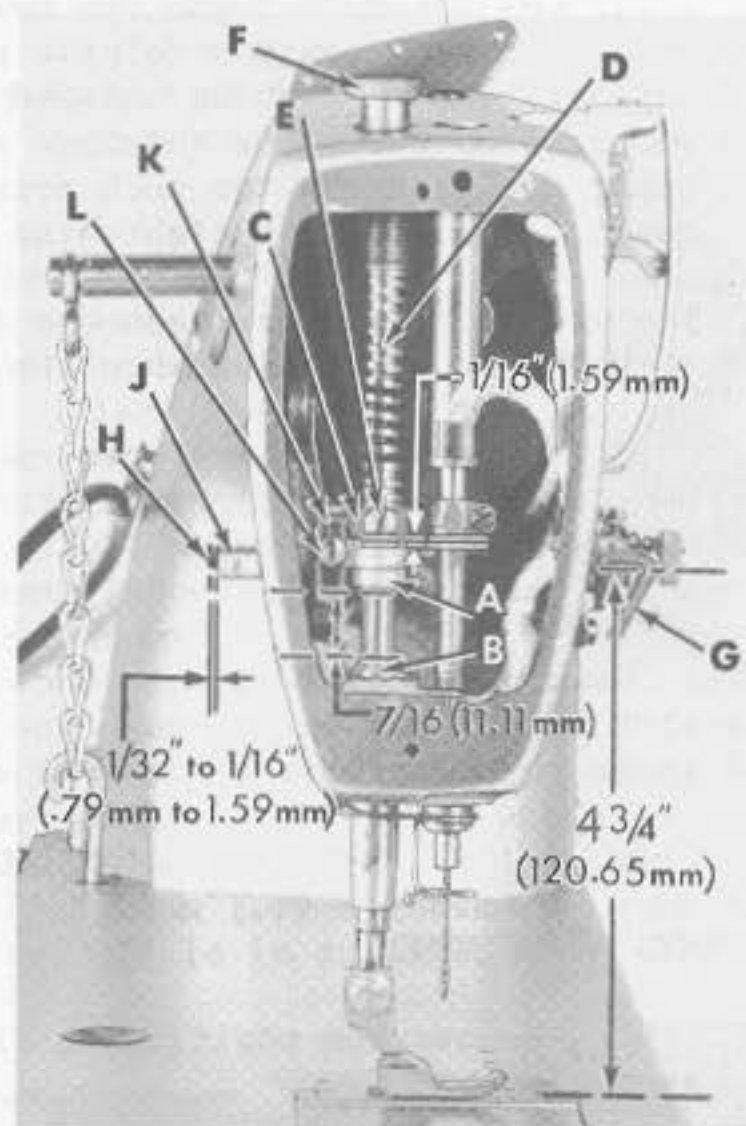
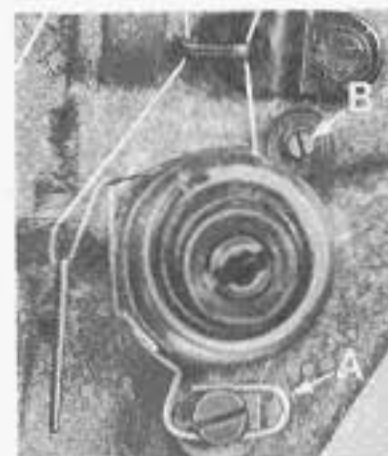

Fig. 16A
Fig. 18A
The presser bar connection (A, Fig. 16A) should be set so that it is  $\frac{7}{16}$  inch (11.11 mm) above the presser bar bushing (B) on Style 63400 KC, as shown in Fig. 16A. This dimension should be  $\frac{1}{32}$  inch (.79 mm) on Style 63400 C. This is accomplished by tipping the machine back against the rest pin, loosening lock nut (A, Fig. 15) and relocating the stop screw (B) on the lifter lever bell crank (C). By turning the stop screw to the right or left, proper setting of the presser bar connection should be obtainable. Tighten lock nut (A) to secure the stop screw in place.
When locating the presser bar guide (C, Fig. 16A) the presser foot must rest directly against the throat plate with the feed dog in its lowest position. The guide is set properly when there is a  $\frac{1}{16}$  inch (1.59 mm) space between the bottom of the presser bar guide (C) and the top of presser bar connection (A).
To obtain this setting, remove the pressure from the presser spring (D, Fig. 16A) and loosen set screw (E). Tap on the presser foot to insure its being down on the throat plate. Set the guide to the  $\frac{1}{16}$  inch (1.59 mm) dimension, center the foot by turning it so that the needle enters the middle of the needle slot. Retighten screw (E) in guide and apply pressure to the presser foot by turning the presser spring regulator (F) clockwise.
Set the needle thread pull-up bracket (G, Fig. 16A) so that the underside of the bracket is  $4 \frac{3}{4}$  inches (120.65 mm) above the throat plate (Fig. 16A).
1. Set the tension assembly so that the tension discs are centered on the check spring eyelet (A, Fig. 18A).
2. Solenoid plunger pin (H, Fig. 16A) must touch tension release pin and the end of plunger pin must protrude a minimum of 1/32 inch (.79 mm) to a maximum of 1/16 inch (1.59 mm). If adjustment is required move tension post assembly in or out by loosening set screw located under machine arm and moving stop screw (B, Fig. 18A) as required.
3. Tension release solenoid is secured to flat of bushing (J, Fig. 16A) with a set screw in bracket. Solenoid plunger pin (H) is to have approximately .005 inch (.127 mm) clearance between it and the tension release pin without thread in the tension disc.
4. The manual tension release cam (K, Fig. 16A) should be set so that it will not release thread tension when the presser foot is raised for back tacking.
The tension release cam can be positioned by loosening screw (L, Fig. 16A) and then raising or lowering to suit the sewing conditions. The average tension release point is between 1/4 to 5/16 inch (6.35 to 7.94 mm) of presser foot lift above the throat plate. Tighten screw securely.